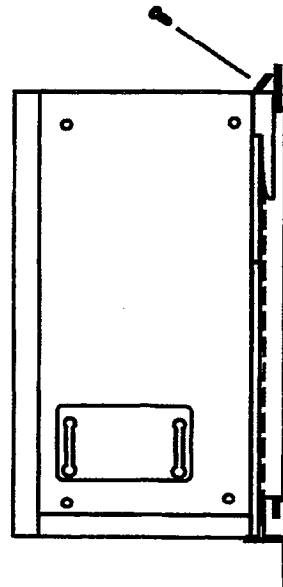

Figure 2-10 Securing the KSU to the Wall Mount Bracket
3. Using the two provided bolts, secure the KSU to the wall mount bracket from the bottom. Refer to Figure 2-10 - Securing the KSU to the Wall Mount Bracket.